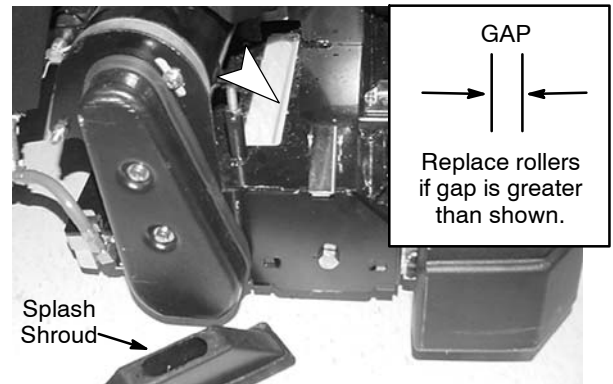

FIG. 24
4. ReadySpace Cleaning: Remove the splash shroud and inspect the rollers for wear. If the gap between the two rollers is greater than 4mm (5/32") replace the rollers (Figure 24). Always replace rollers as a set.